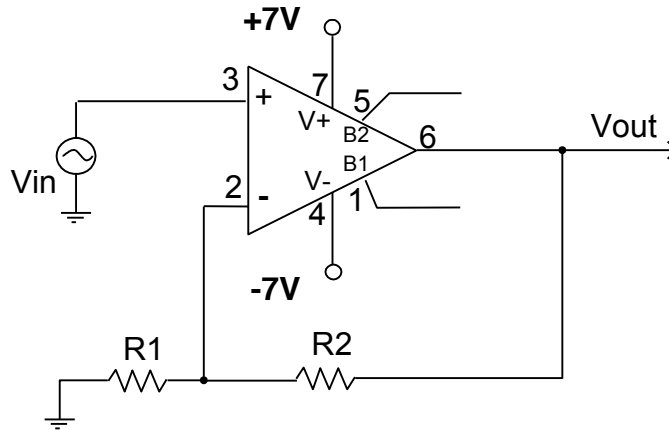

Fig. 5: Non-inverting Amplifier configuration.
Assuming a finite GBW of  $\omega_t$ , the frequency dependent gain of the non-inverting amplifier shown in Fig. 5 is given by
7. Consider a non-inverting amplifier shown in Fig. 5. Assuming  $R_1 = 1\text{K}$ , find the value of the resistor  $R_2$  to get an amplifier with a DC gain of 61. Verify your design with PSpice AC simulations. What is the simulated 3-dB bandwidth of the amplifier? Repeat the PSpice AC simulations when the value of  $R_2$  is adjusted to obtain a gain of 31 and 91.